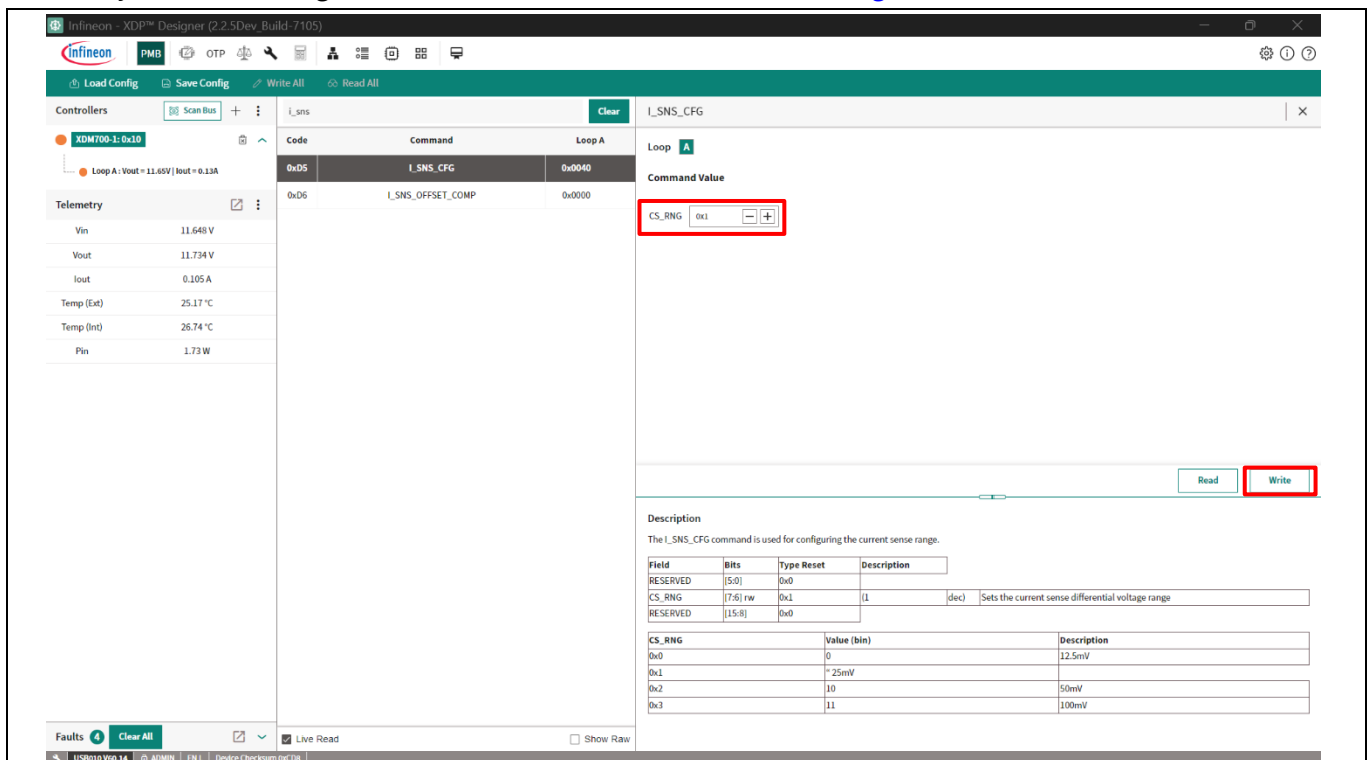

Figure 12 Current sense range selection
4. Modify the CS_RNG register bit to 0x1 and click **Write** as shown in Figure 12